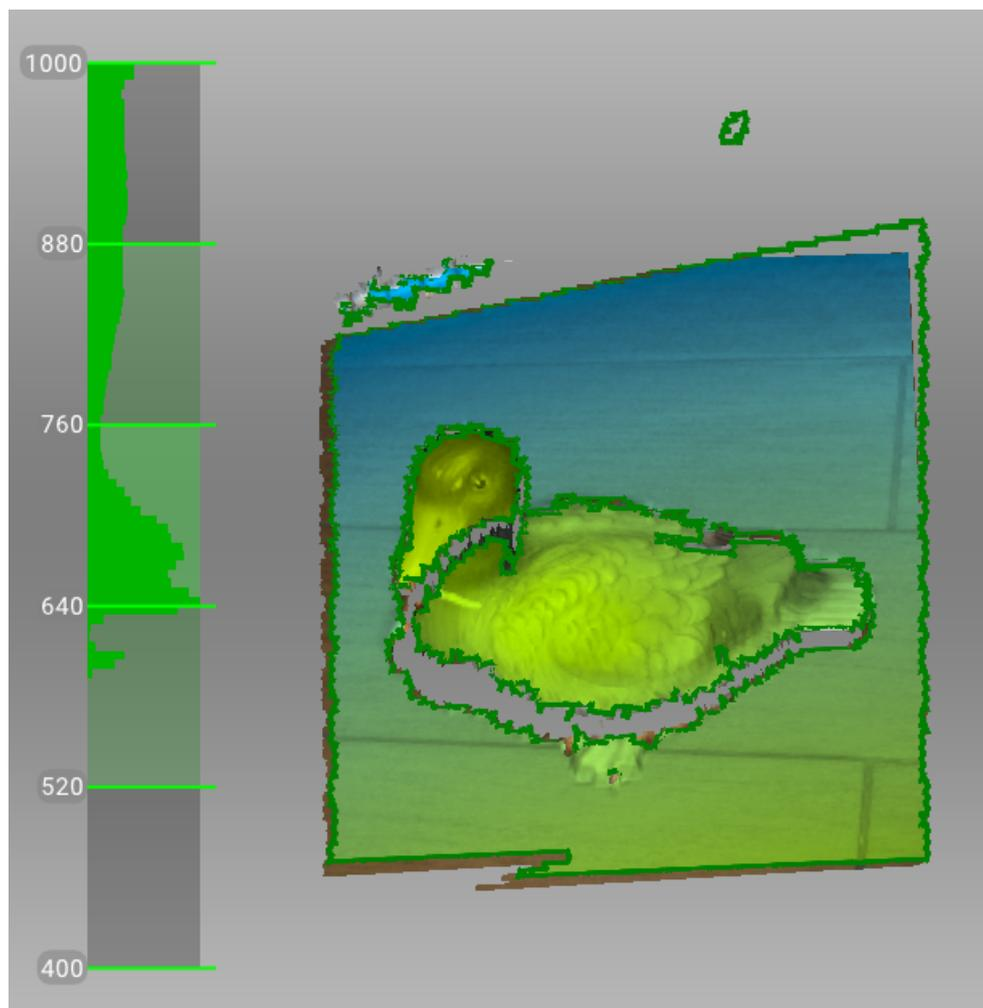

Figure 28: Distance meter and distance color showing surfaces that fall within the optimal range for Artec Spider.
- Try to position the scanner in the way the most surfaces in the field of view are colored in green which corresponds to the center of the range meter1 (Figure 28)
1 Technically, the center of the range meter is the center of the depth of view. The 3D scanner has near and far cutting planes (see Figure 2) that determine the optimum distance between the scanner and the target object. Artec Studio offers the *Range meter* feature so you can easily visualize the distance between the scanner and the object during the recording process. The *Range meter* comprises a set of semitransparent diagrams located on the left side of the *3D View* window (see Figure 28). Each histogram displays the distribution of captured surface points by distance from the scanner. The color corresponds to the set of surfaces from which it was obtained: by default, gray indicates registered key frames, dark green indicates the last successfully registered frame and red indicates a registration error.